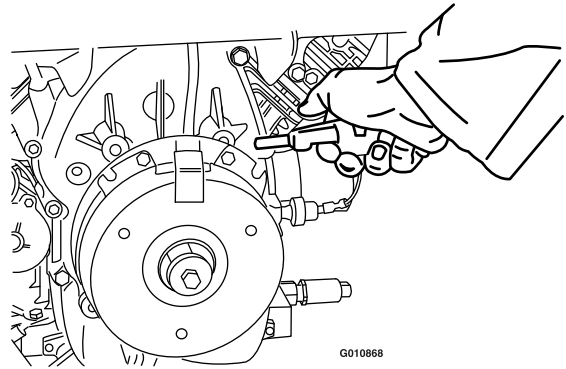

Figure 82
3. Using an air compressor, blow out any debris from under the brake pole and around the brake spacers (Figure 82).